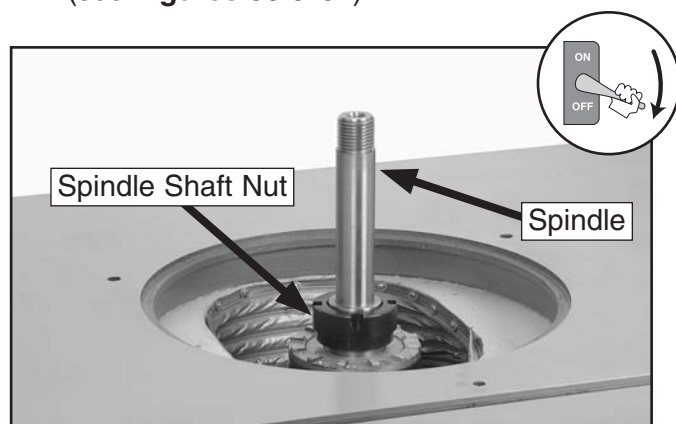

Figure 56. Spindle and spindle shaft nut.
6. Place the spindle shaft nut wrench over the spindle and rotate the wrench until the inward facing knobs at the bottom of the wrench engage with the slots on the spindle shaft nut (see **Figures 56 & 57**).